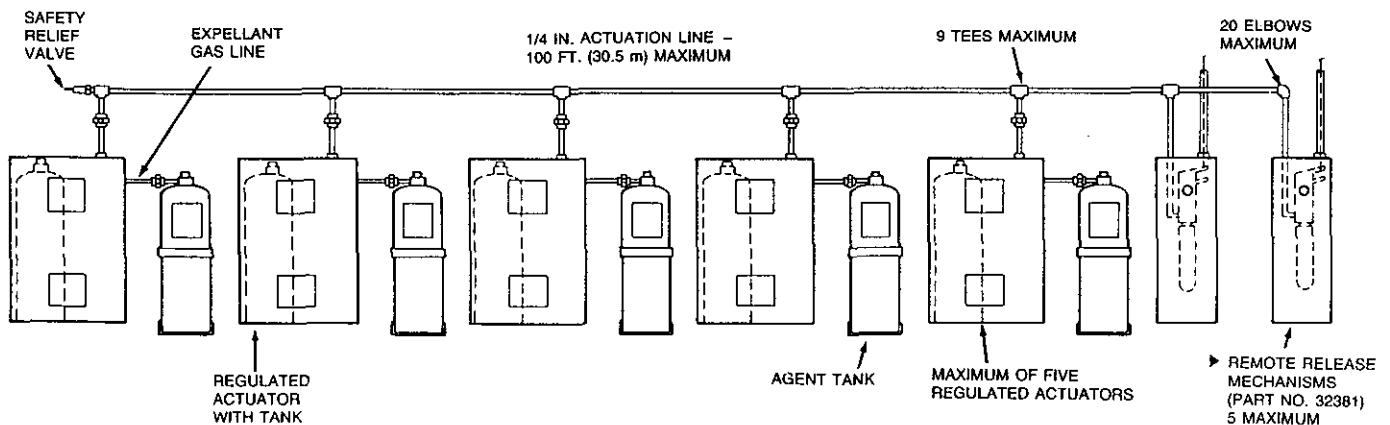

FIGURE 61
3. A combined total of 20 elbows and 9 tees may be used in these lines. Two 45° elbows equal one 90° elbow. See Figure 61.